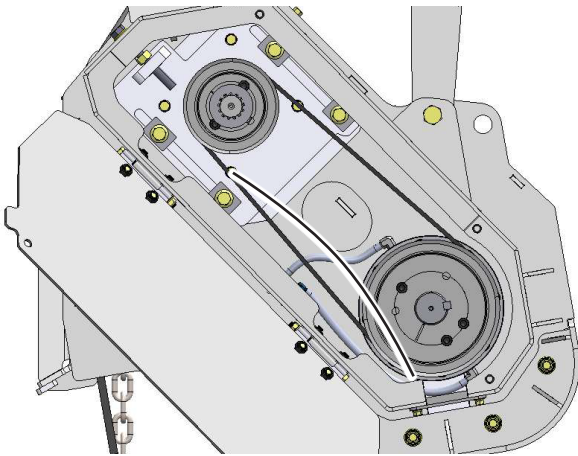

Figure 16
5. After replacing the drive belt, turn the tension bolt clockwise to tighten the belt to the specified tension. See Figure 16.